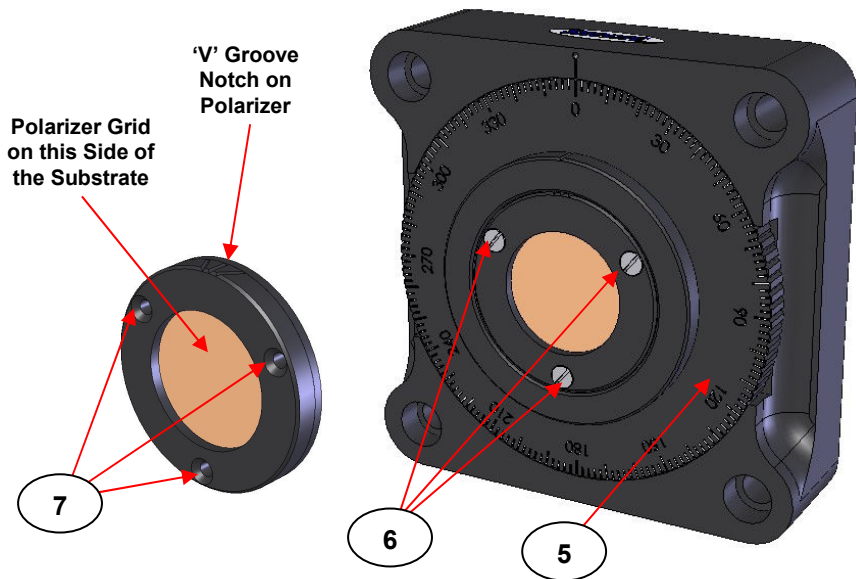

Fig 3. 25mm C.A. GS57010 Series Polarizer Fitted Within its Compatible Rotator Mount P/N GS57340
For installation of a GS57010 Series polarizer, the three fixing screws (6) supplied with the GS57340 Series rotator mount and fitted within the graduated rotator wheel (5) are used to secure through the three fixing holes (7) of the anodized aluminium ring mount of the GS57010 Series polarizer itself. Fig 3. shows an example of a 25mm C.A. GS57010 Series polarizer compatible for fit (and fitted) in the P/N GS57340 as the front view.